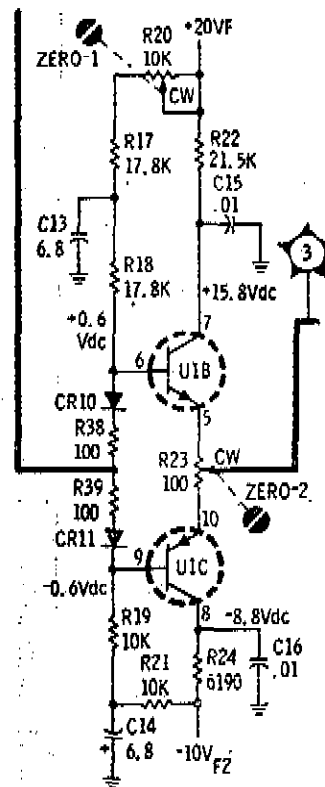

Figure 8-21. Partial Schematic (P/O Change 1)
## Page 8-23, Figure 8-21:
Page 8-23, Figure 8-21 (Service Sheet 6):
Page 8-21, Figure 8-21.
► Change Figure 8-21 as shown in the partial schematic.